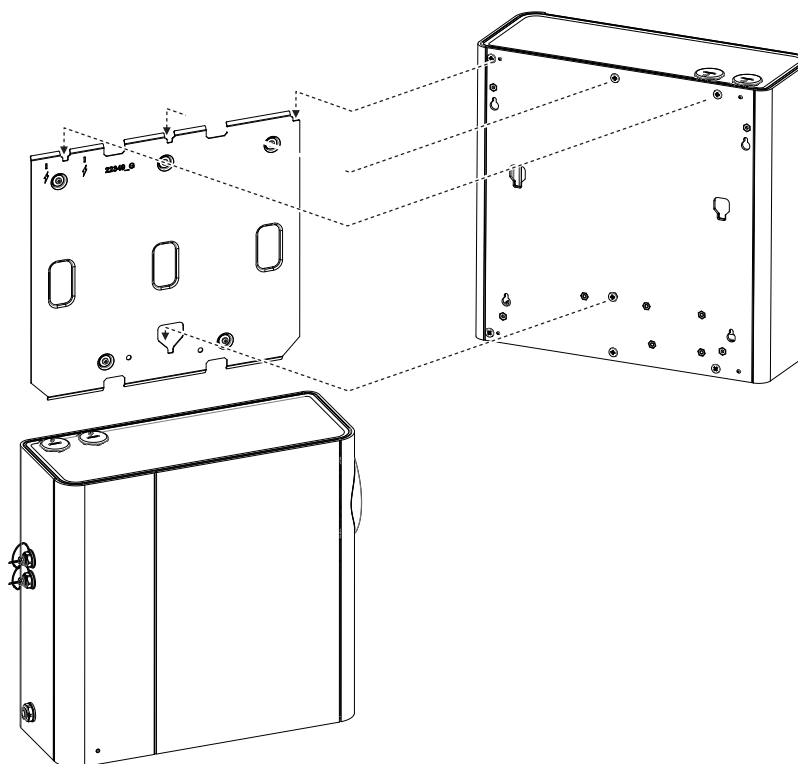

Figure A-8: Fit the Local Relay StaX to its mounting bracket
4. Fit the Local Relay StaX to its mounting bracket by aligning the four mounting studs to their respective recesses and sliding the unit into place (Figure A-8). The top of the unit should be aligned with the top of the mounting bracket.